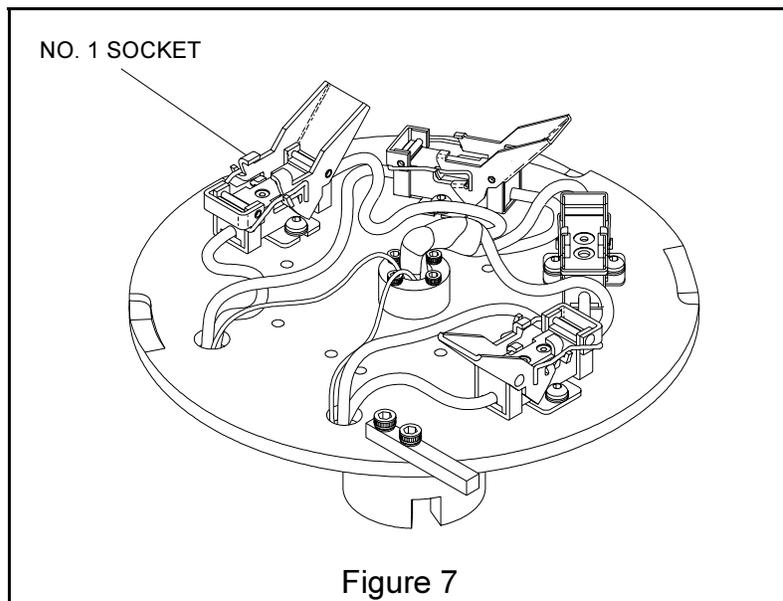

Figure 7
| IPL Figure 7 | Web Assembly | 45 |
2. Move the operating Lamp, if serviceable, to Number 1 Position (**Figure 7**). (Rotate Clockwise)
4. Reset Table to move Number 1 Lamp to the Operating Position (**Figure 7**). (Rotate Clockwise)